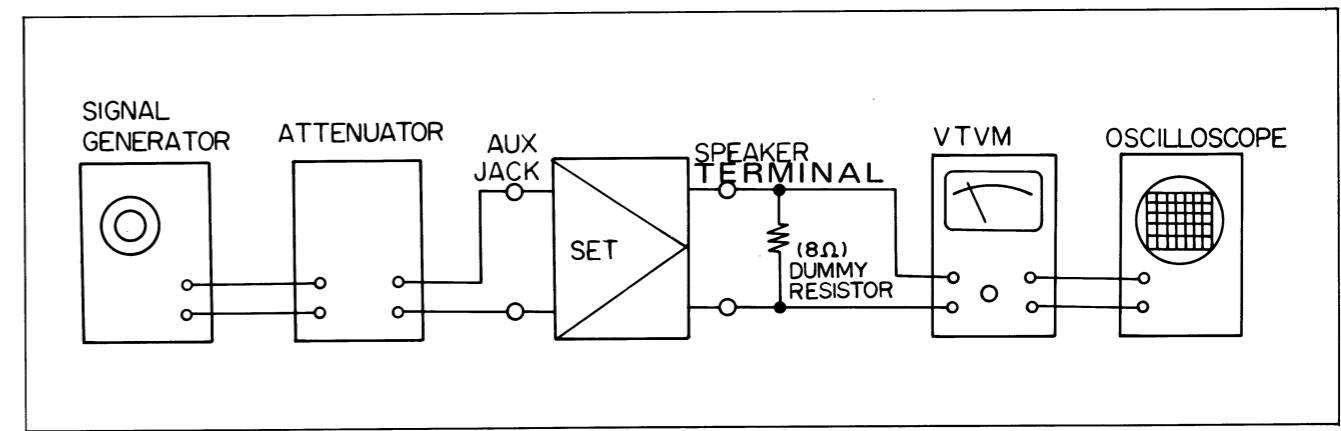

Figure 11
## ADJUSTMENT OF MAIN AMP CIRCUIT (See Figure 11 and 12)
- 5. By using a signal generator (1kHz, 300mV), apply signals to the terminal AUX located at the rear of the set and adjust the volume control and balance control so that the output signal of the speaker terminal (A or B) becomes 1W = 2.0V. (See Figure 11)